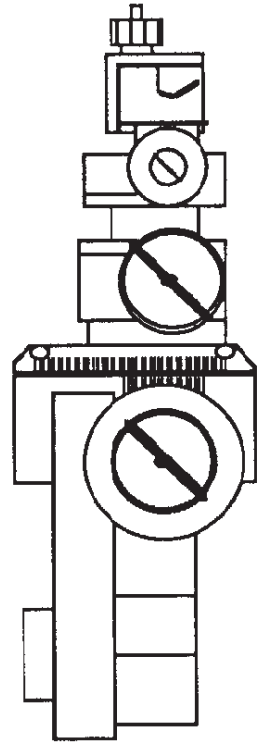

Fig. 3—Large Locking Screw
**Procedure:** For axes controlled by knobs A and C: Grasp the knurled knob housing with the pliers, being careful to protect the knob by covering it with a cloth or piece of rubber. While holding the knob housing securely, loosen the large locking screw (shown in Figure 3) in the back of the knob with the adjustment tool.
For the axis controlled by knob B: First remove the large locking screw holding knurled knob C in place. Next remove knurled knob C by unscrewing it counter-clockwise. Locate the small set screw labeled D in Figure 3. Loosen this screw. While holding knurled knob B rotate the collar D clockwise to tighten the movement.
Procedure: For axes controlled by knobs A and C: Grasp the knurled knob housing with the pliers, being careful to protect the knob by covering it with a cloth or piece of rubber. While holding the knob housing securely, loosen the large locking screw (shown in Figure 3) in the back of the knob with the adjustment tool.